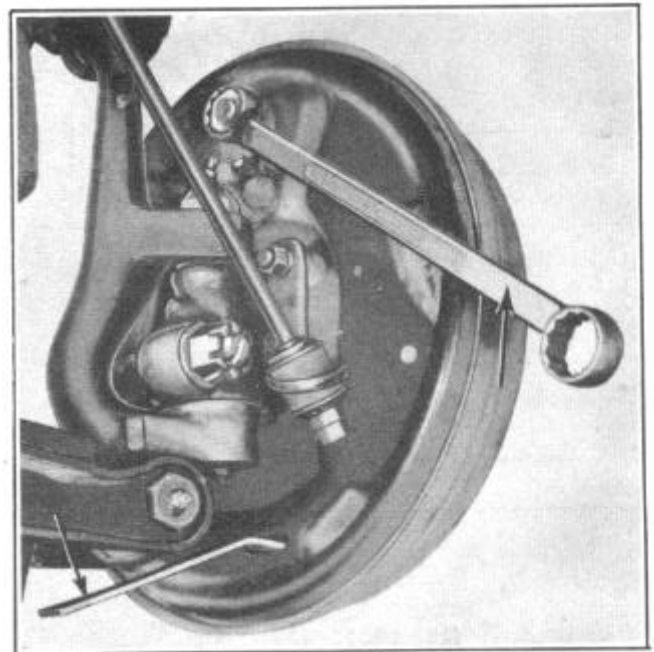
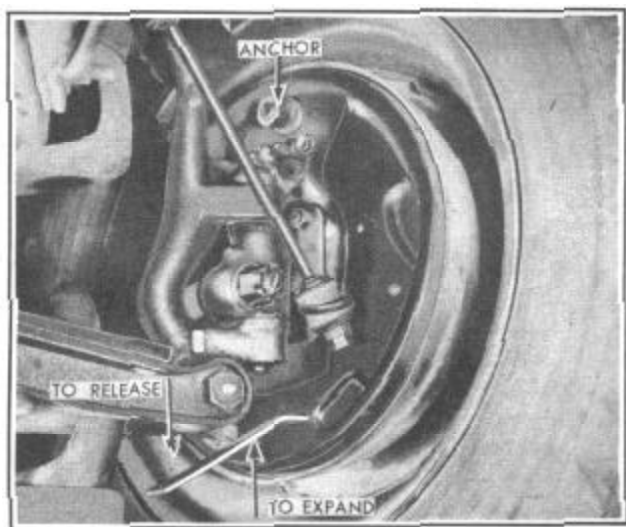

FIGURE 12
FIGURE 13
6. Remove adjusting hole cover from the backing plate, Figure 12. Expand the brake shoes by turning adjusting screw. Move handle of Brake Adjusting Tool J-1028 as shown in Figure 13, until the brake drum can just be turned by hand, then back off adjusting screw moving handle of Tool J-1028 approximately 14 notches.
14. After installing hubs and drums, insert a pry between the linings of the secondary shoe and the drum (through drum feeler gauge hole) and move the shoe assembly until the primary shoe is against the opposite side of the drum, Figure 13. The primary shoe can be pried against the drum by inserting the .015" feeler gauge between the adjusting screw end of secondary shoe lining